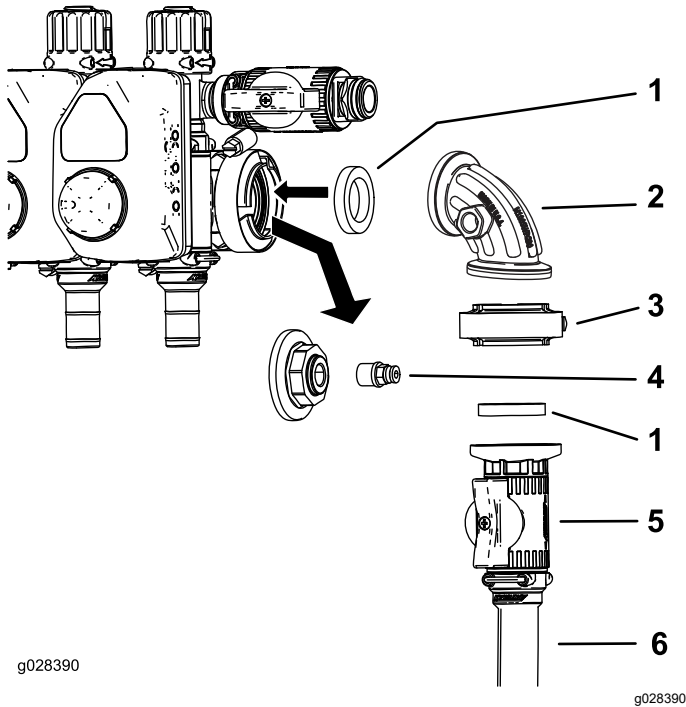

Figure 24
1. Disconnect the cap and coupler from the pressure-gauge port (Figure 24).
2. Install the control valve assembly as shown in Figure 24.
3. Install the coupler into the open port on the 90° elbow (Figure 24 and Figure 37).
4. Connect the hose-reel supply hose to the control valve using a hose clamp (Figure 24).